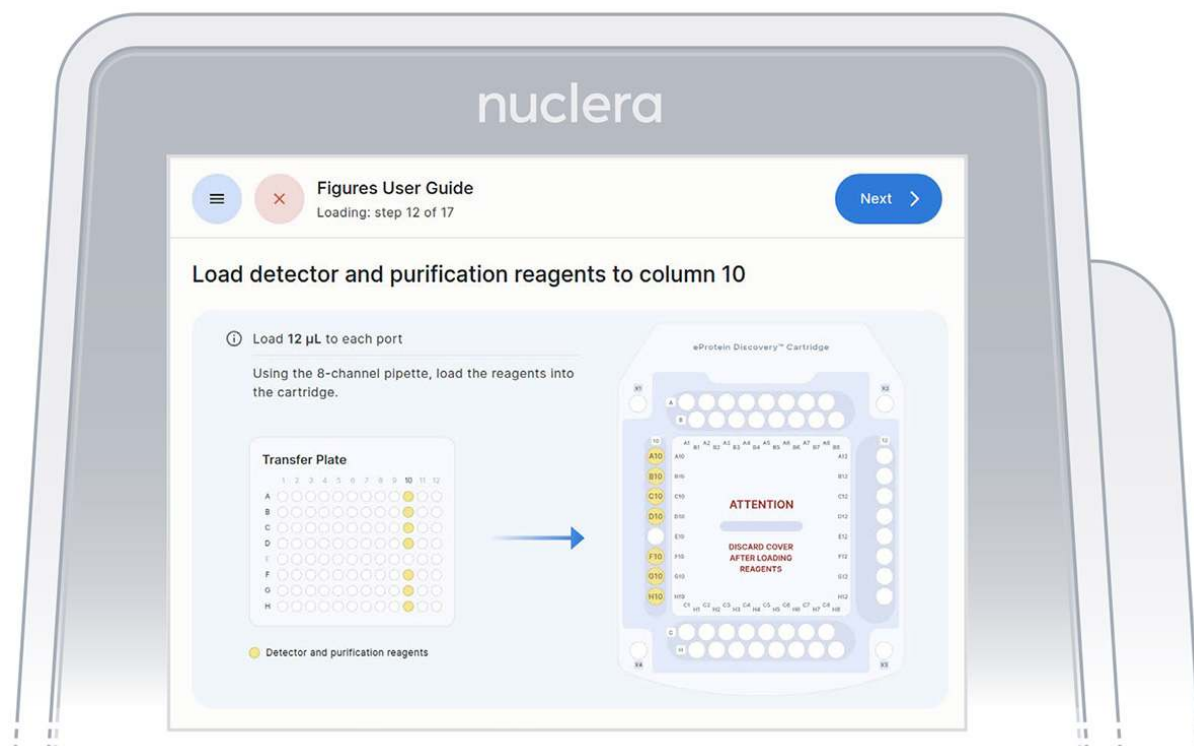

Figure 23: Loading of the reagents onto column 10 of the cartridge
- ▷ Load 7x fresh p20 pipette tips and aspirate 12 μ L of the reagents from the transfer plate wells A10-D10 and F10-H10 into ports A10-D10 and F10-H10 of the cartridge (Figure 23).